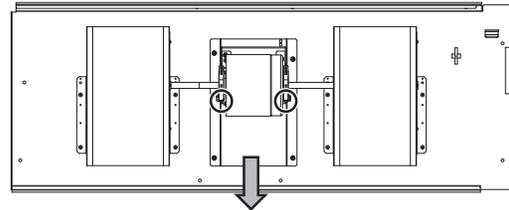

Fig.5
- (2) Remove the two fixing screws and attachment on the fan motor (Fig. 5).
- (3) Pull out the fan motor in the direction of the arrow (Fig. 5).